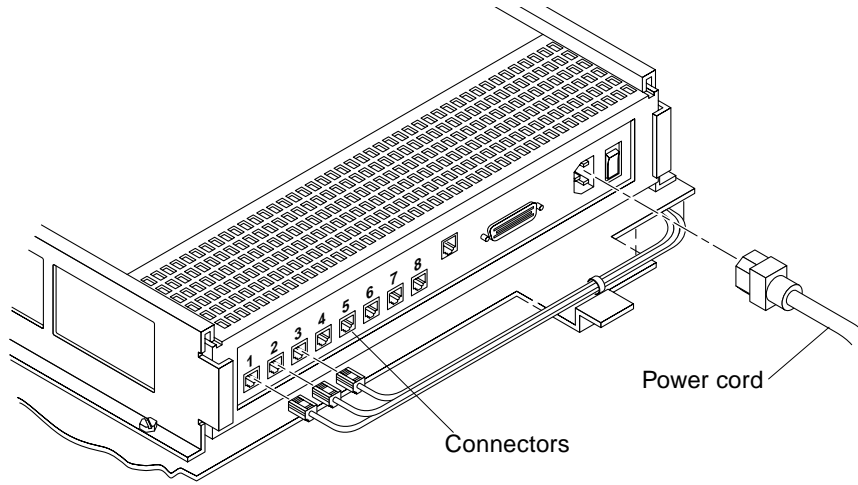

FIGURE 2-4 Terminal Concentrator Cable Connector Locations
4. Connect one end of the power cord to the terminal concentrator, as shown in FIGURE 2-4. Connect the other end of the power cord to the power distribution unit.